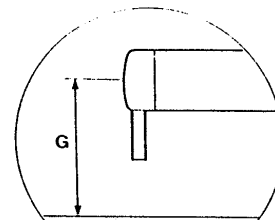

Fig. 8
- Measure dimension **G** (Fig.8) ensuring the Autohelm actuator is horizontal.